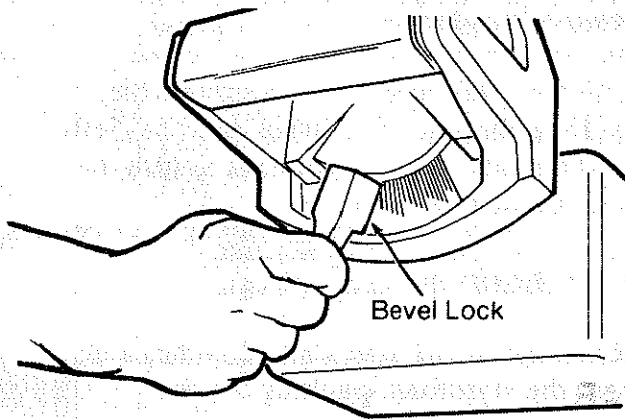

Fig. 19
10. Push the *bevel lock* to the left as far as it will go. (Figure 19)